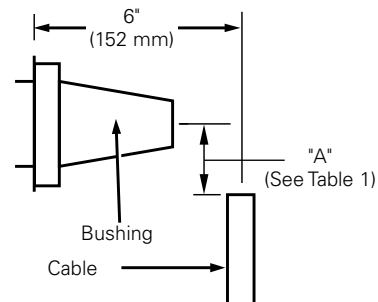

Figure 3. Line illustration for cable training.
- Cut cable to length "A" from centerline of bushing. (Refer to Figure 3 and Table 1 for "A" length).